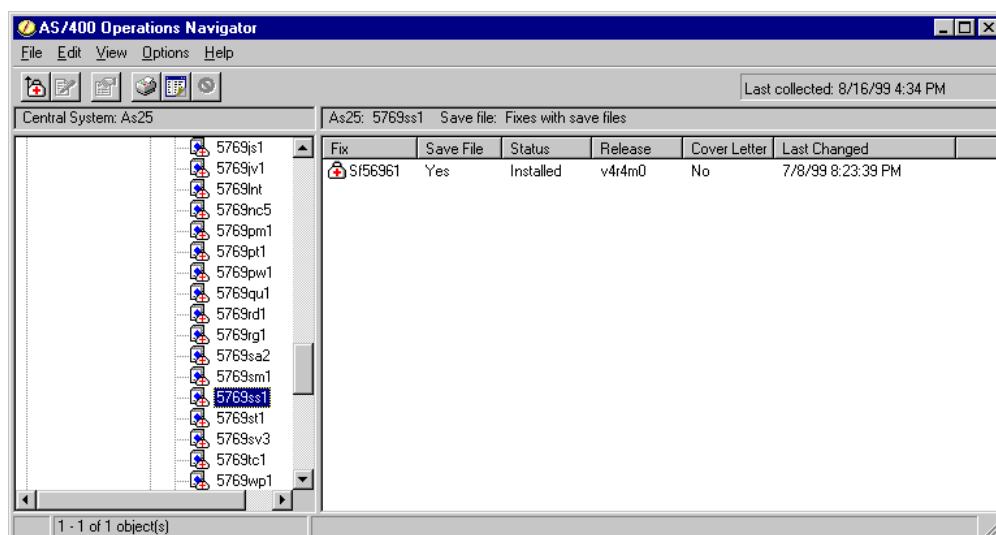

Figure 83. Fix inventory list by product
6. If you wish also to see the Save File column, scroll the right-hand panel to the right to reach the Save File column. Click on **Options** —> **Columns**. Using the Remove, Add Before and Add After buttons, move the Save File column so that it displays in the same window. The window appears as shown in Figure 83.